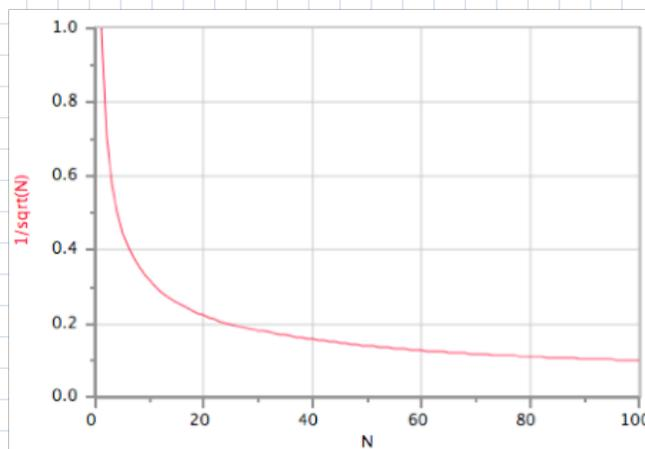

Figure 10: The function $1/\sqrt{N}$.
5. As you can see, for $N=1$ the standard error is equal to the standard deviation, which makes sense (the average of one data point is just the data point). As you increase N , the SE goes down, meaning you are confining the 68% confidence interval to a narrower range around the mean. However, the SE does not go down very quickly with large N , as you can see from Figure 10: